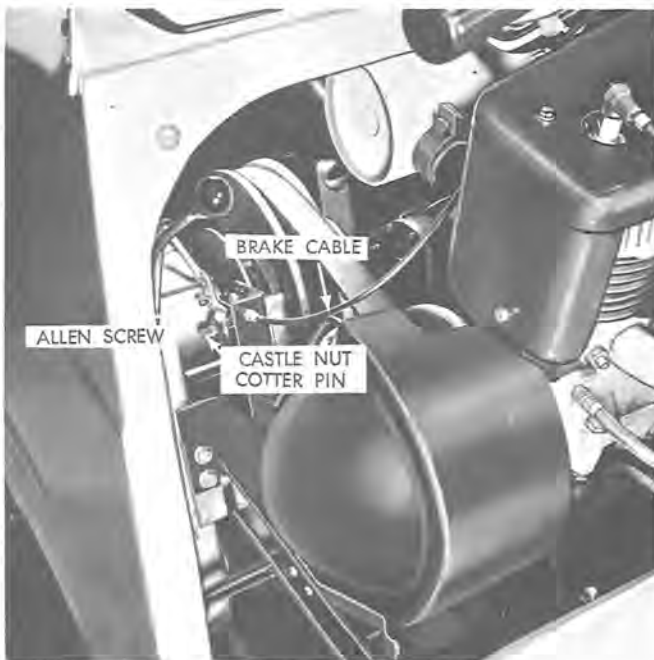

Figure 5
1. If the brake is too loose and needs tightening, loosen the two allen screws as shown in Figure 5. Pull brake cable tight and tighten allen screws.
brake disc. Then back the castle nut off one notch and reinstall cotter pin (See Figure 5).